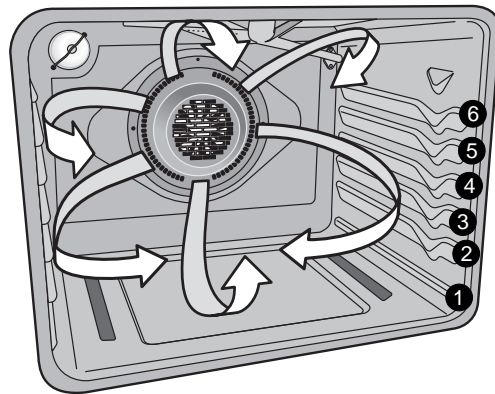

Figure 28: Oven rack positions and air circulation
- For best results when using a single oven rack, place rack in position 3 or 4 (Figure 28). When using 2 oven racks, place in positions 3 & 5. When using 3 oven racks place in positions 2, 4, & 6 (use offset rack only in position 6).